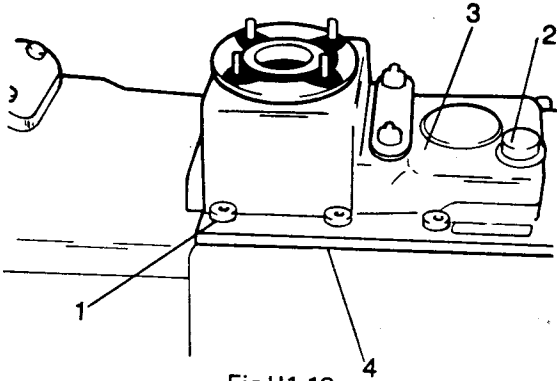

Fig H1.18
- (3) Refer to Fig H1.18. Remove the selector fork and shaft cover fixings (1).
- (4) Remove the plug (2) or reverse switch on special gearboxes.
- (5) Remove the cover (3), shafts and forks.
3. Replace the selector forks and shafts: (Fig H1.18 still applies).